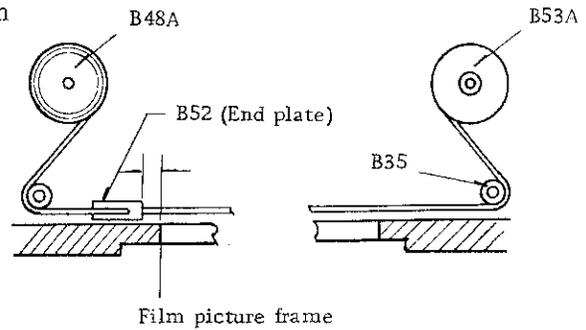

Fig. 12
a. When the light shielding curtain is positioned correctly and the light shielding curtain is set to the open position, the end plate stops at a position 0.5 mm from the film picture frame as shown in Fig. 12.
(Fig. 12 and 13)